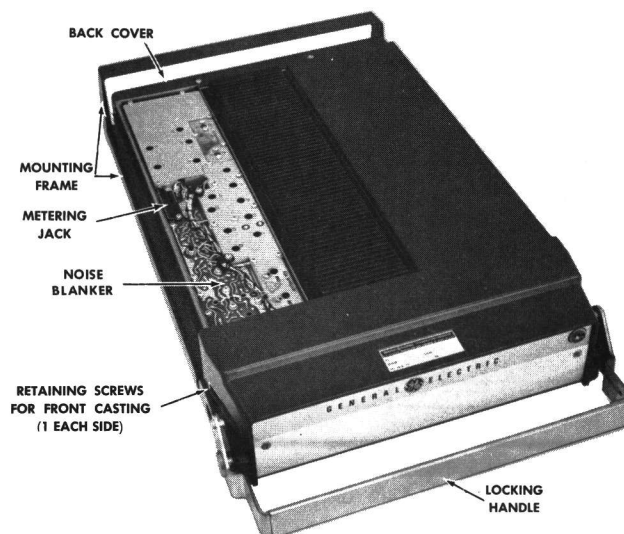

Figure 2 - Removing Top Cover
1. Loosen the two Phillips-head retaining screws in front casting (see Figure 2), and pull casting away from system frame.